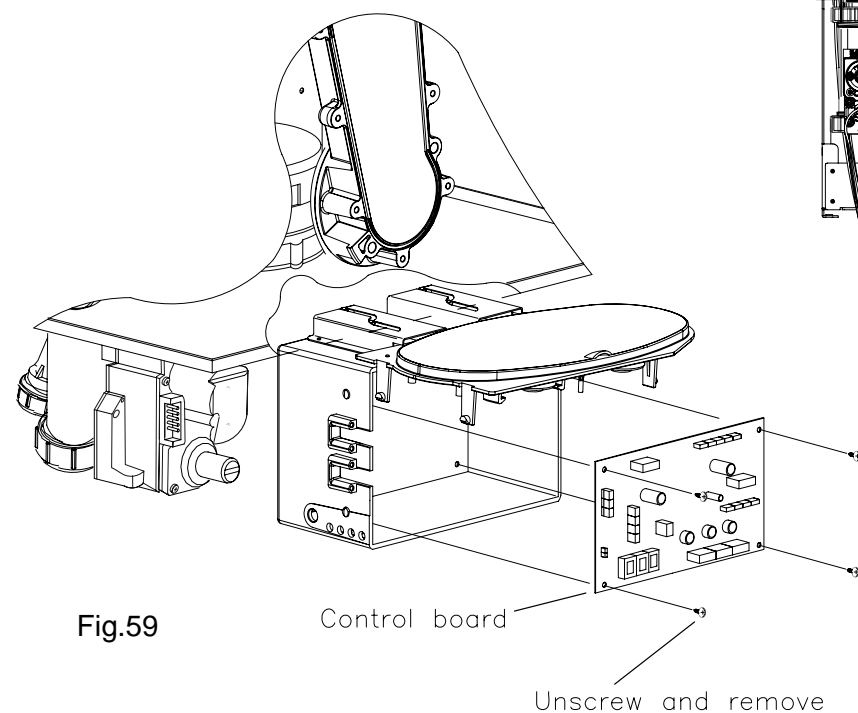

Fig.59
8.21 TO REMOVE/REPLACE CONTROL BOARD (Fig.59).
- 8.21.3** Detach the PCB board from its base by unscrewing the four securing screws. (Fig. 59).